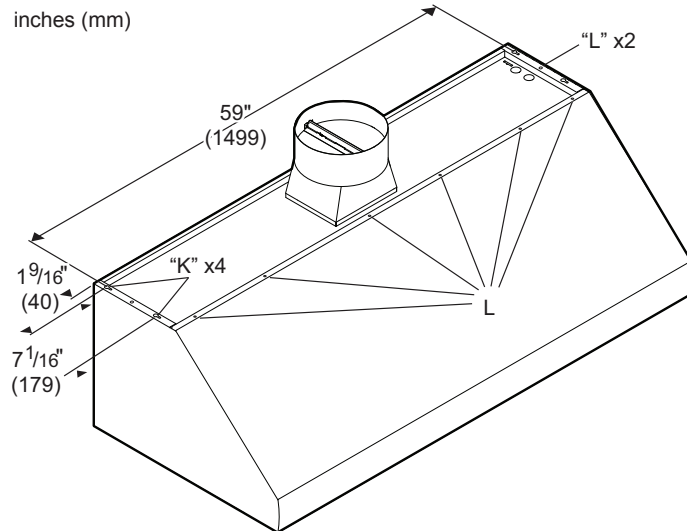

Figure 16: Tap Hole and Screw Hole Locations
*Figure 16* shows the (4) keyholes labeled "K" used for mounting the hood to the bottom of the cabinet.
1. In the base of the cabinet, drill 1/8" (3 mm) tap holes 59" (1,499 mm) apart, as indicated in *Figure 16*.
2. Screw in (4) 1" (25 mm) screws (provided with hood) leaving 1/4" (6 mm) exposed to hang the hood on.
4. From inside of hood, insert screws supplied. Drill through holes, use 5/8" (16 mm) screws supplied, (1) on each side and (6) along the front, into bottom of the cabinet. See screw holes labeled "L" in *Figure 16*.